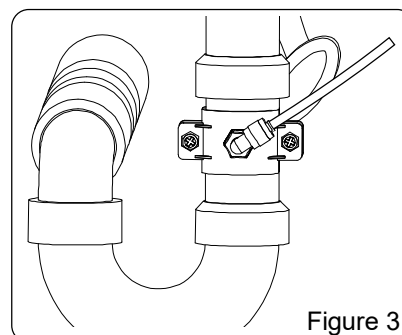

Figure 3
1. Take out the 3/8" tubing from the accessory bag, cut it to proper length, attach one end to the "Drain" port on RO module assembly and attach the another end to the drain pipe line(Figure 3). Make sure the tubings are fully seated.